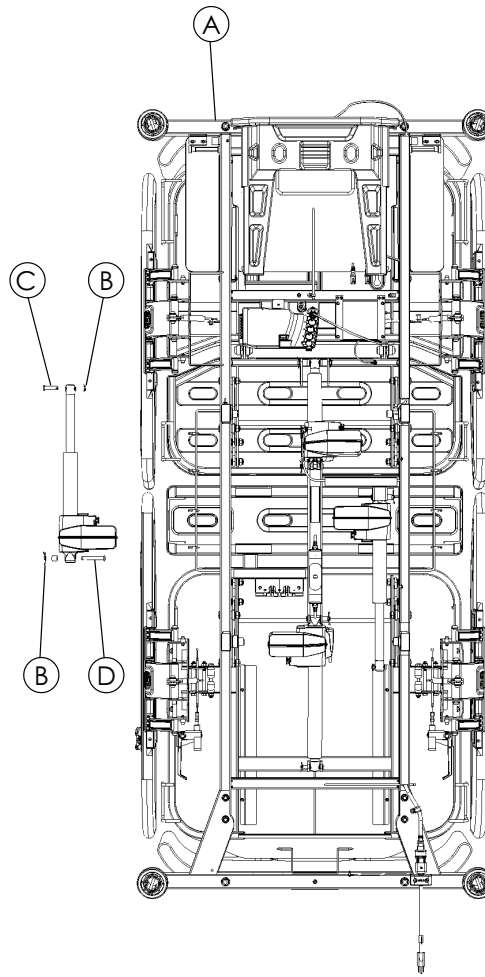

Figure 5 – Foot end lift actuator
2. Support the foot end litter cross brace (A) to support the foot end litter (Figure 5).
6. Using needle nose pliers, remove and discard the ring cotter pins (B) from each clevis pin (Figure 5).
7. Using one hand, support the foot end lift actuator and remove and discard the foot end clevis pin (C) then allow the foot end lift actuator to pivot down (Figure 5).
8. Using one hand, support the foot end lift actuator and remove and discard the head end clevis pin (D) and spacer (Figure 5).